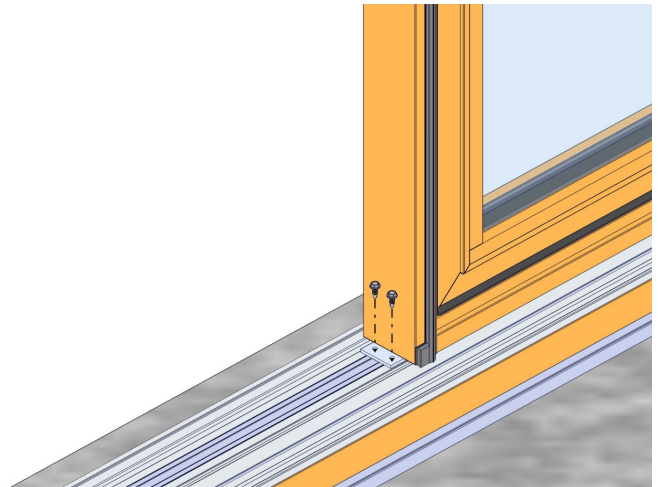

Fig. 25b
3. Seal around L-angle brackets at the head and sill covering all screw heads also. (Fig. 25b)